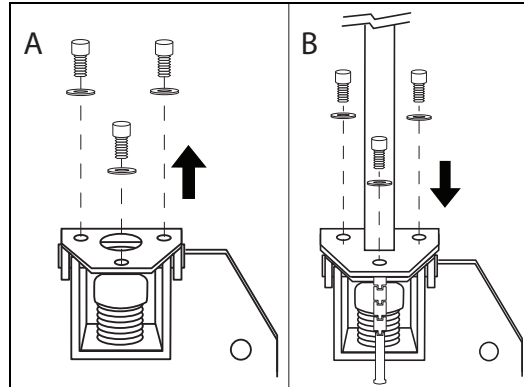

Figure 2-2. Handlebar Attachment
1. Remove the hex screws (3) from the steering column of the fork assembly using an 6 mm hex key (Figure 2-2-A).
2. Place base of handlebar into the steering column of fork assembly then secure base of handlebar into the steering column of the fork assembly using the hex screws (3), removed in Step 1, using an 6 mm hex key (Figure 2-2-B).